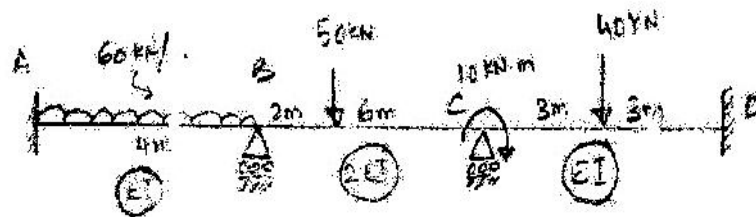

Fig. 6
16. Analyze the continuous beam shown in fig. 6 by any of the matrix methods. Also draw BMD.